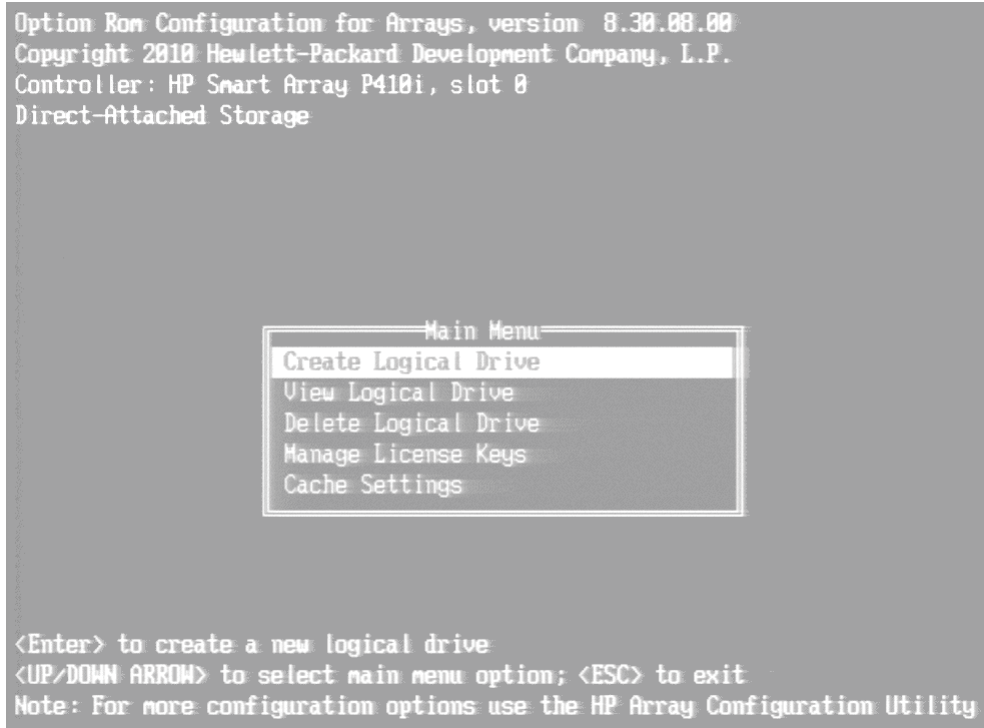

Figure 1: RAID BIOS Main Menu
2. When prompted, press **F8** to run **Option ROM Configuration for Arrays Utility**. The RAID BIOS Main Menu opens (see Appendix A, Figure 1).